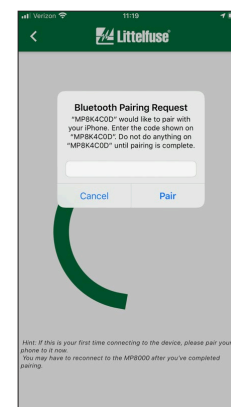

Figure 2
- e. Enter pairing code for the MP8000. (See Figure 2)